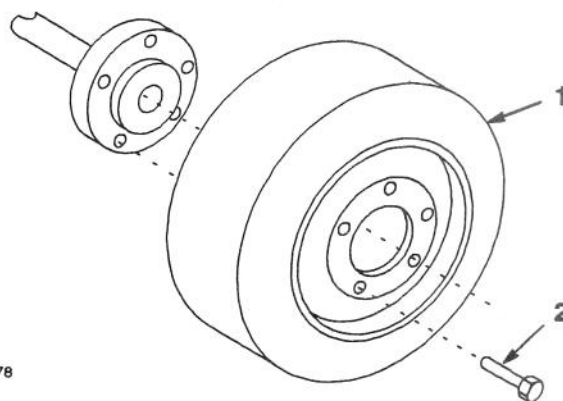

Figure 2
1. Install wheel onto axle with valve stem in (Fig. 2).